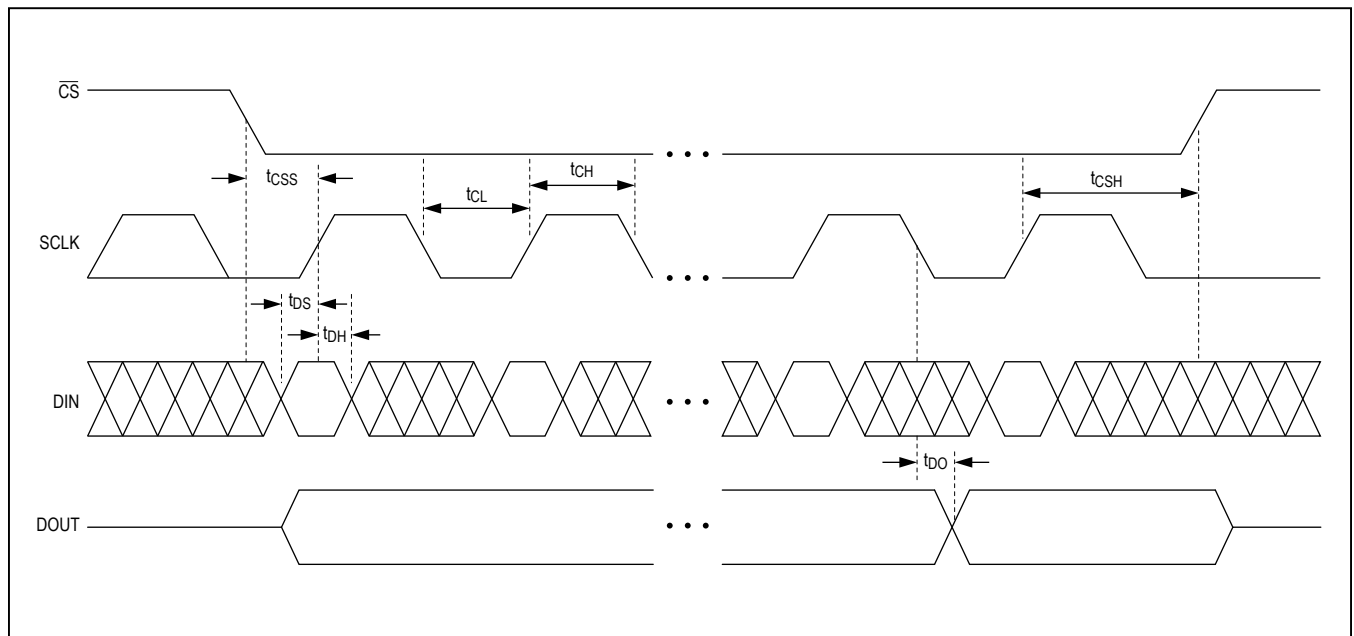

Figure 10. SPI Timing Details
switch. The switches are updated at the rising edge of  $\overline{CS}$  with the last 8 bits of data shifted in only if the number of bits clocked in is greater than or equal to the number of switches (8). The data on the DOUT pin represents the end of the shift register. This will output the contents of the shift register followed by the data being shifted in on the DIN pin. Please note that the data in the shift register may not be the same as the state of the switches if there were insufficient clocks at the last rising edge of  $\overline{CS}$ . See Figure 10 and 11 for the SPI timing diagrams.